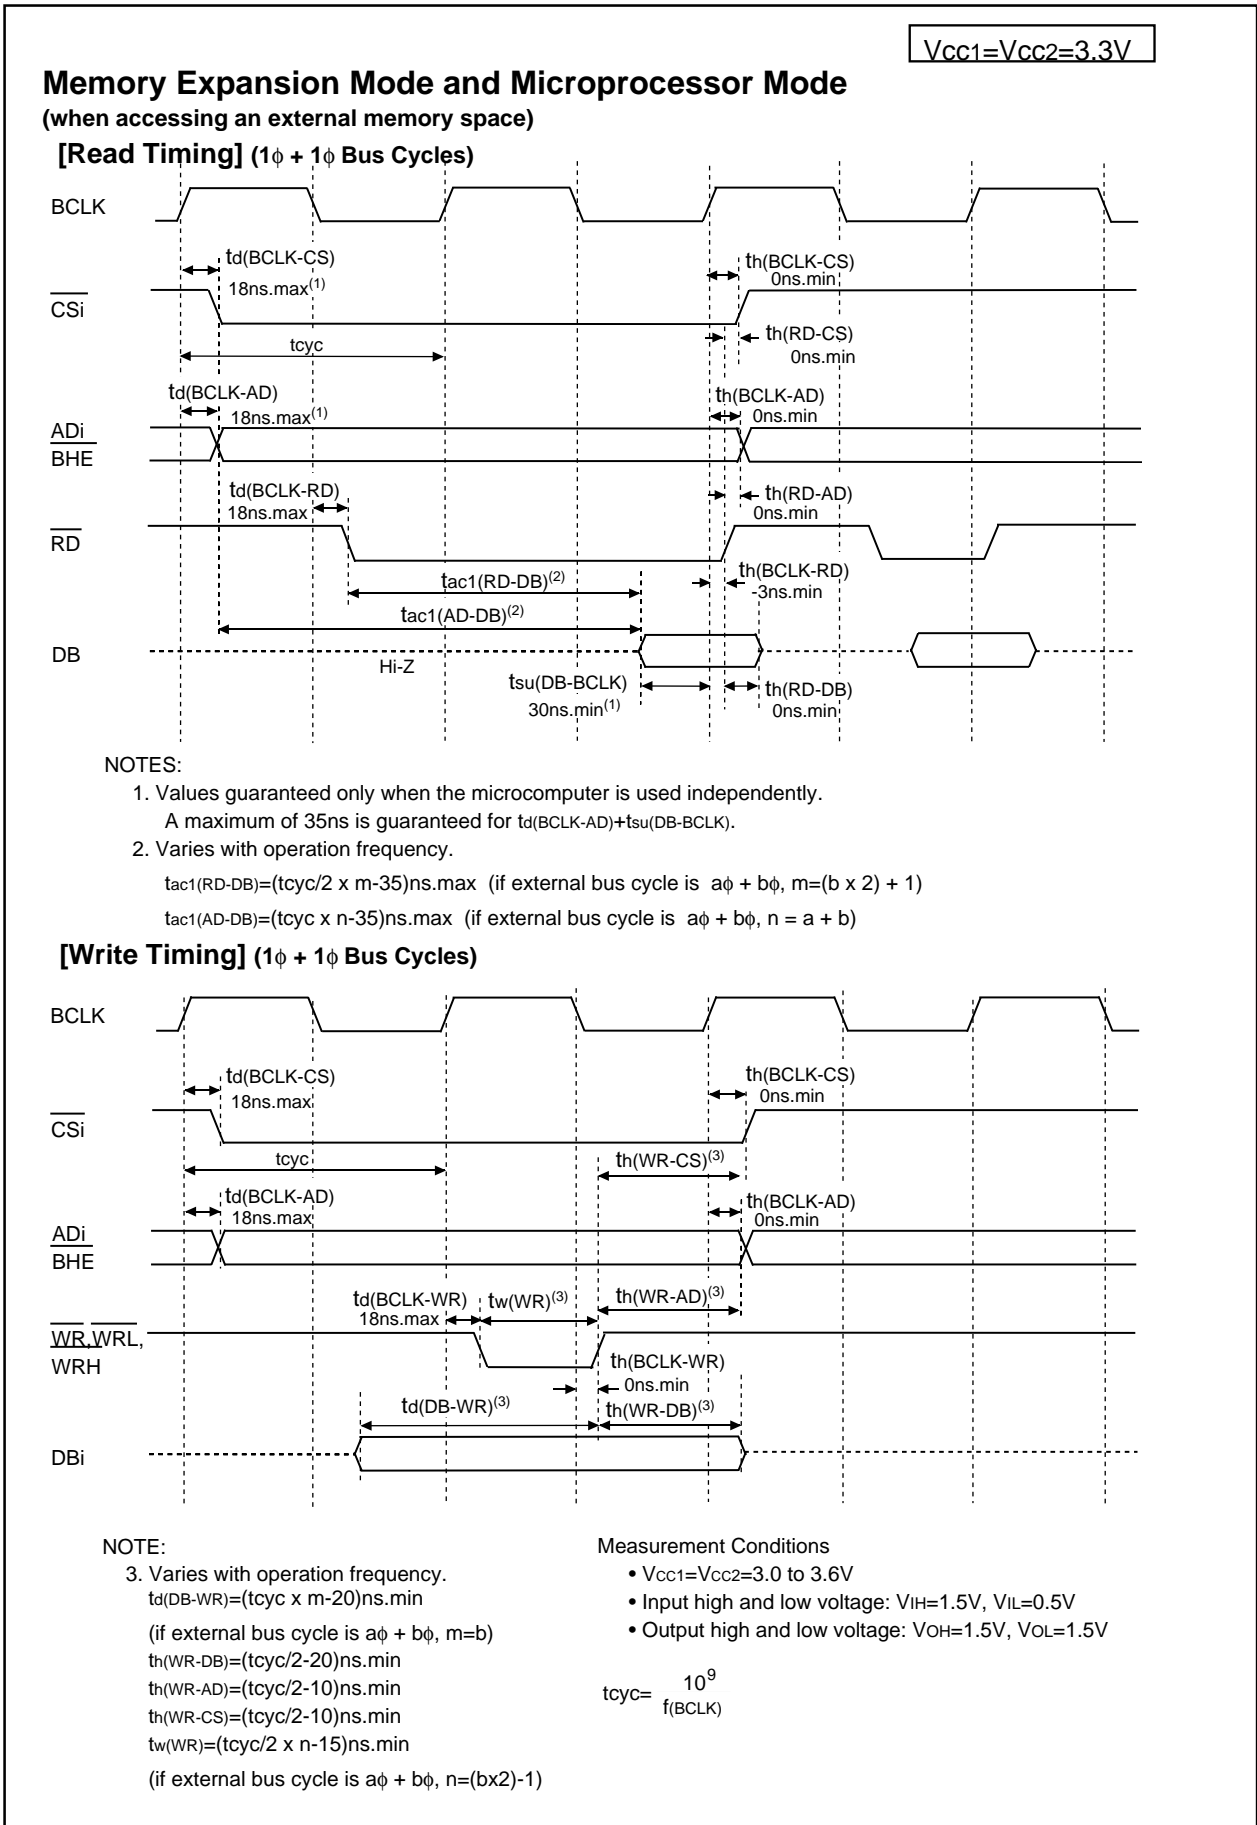

Figure 5.6 $V_{CC1}=V_{CC2}=3.3V$ Timing Diagram (1)
52	• Figure 5.6 Vcc1=Vcc2=3.3V Timing Diagram (1) Expression for tcyc added; note 3 corrected